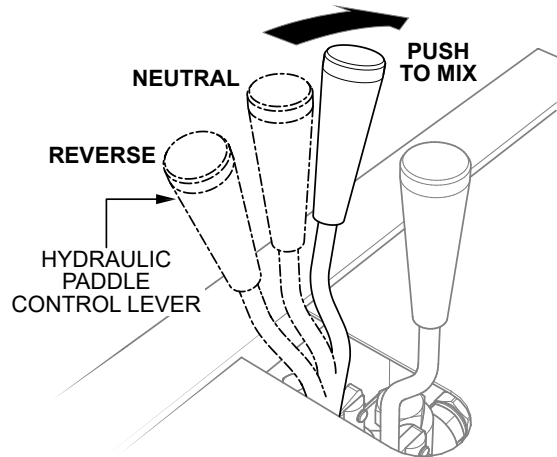

Figure 25. Hydraulic Paddle Control Lever (Mix Position)
- Push the hydraulic paddle control lever (Figure 25) forward for clockwise mixing rotation of the paddle blades.